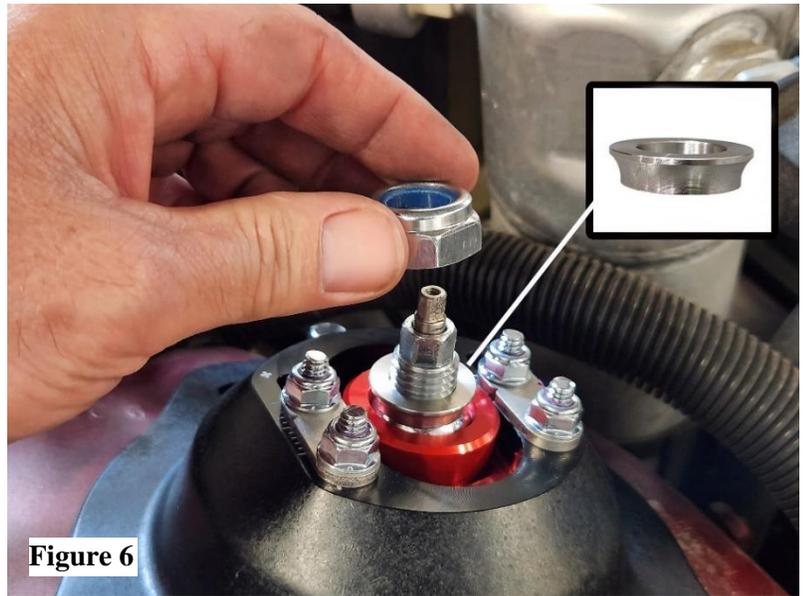

Figure 6
10. Place the strut rod through the caster camber plate and install one SG104 spacer with the narrow end facing down, followed by the strut retaining nut. (Figure 6)